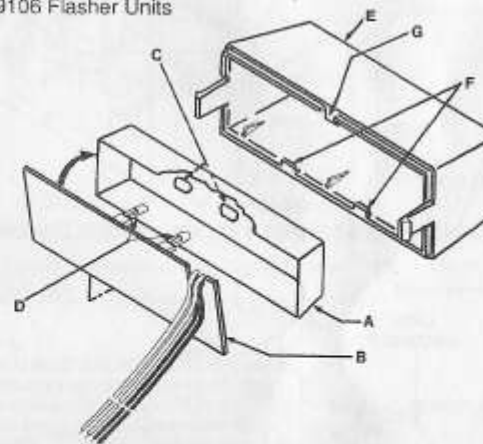

Figure 2
1. Attach the reflector (A) to the Lamp Printed Circuit (PC) Board (B) by lining up the reflector's cut-outs (C) with the lamps (D) and then pushing the reflector over the lamps. See Figure 2.
2. Insert the Lamp PC Board with reflector inside the lens (E) by placing the Lamp PC Board behind the lens' two bottom tabs (F) and then snapping the Lamp Board onto the top tab (G). See Figure 2.